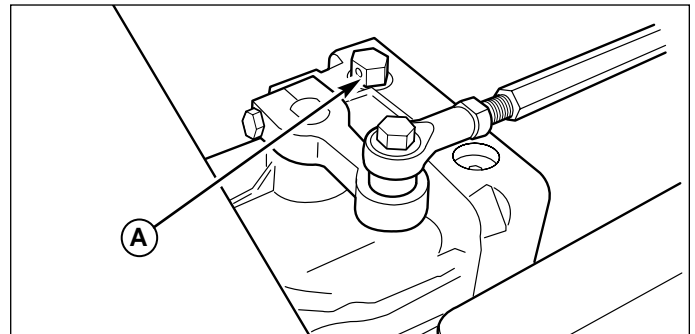

Figure 6. Hydraulic Release Valve Location
1. Refer to Figure 6 for hydraulic release valve location.